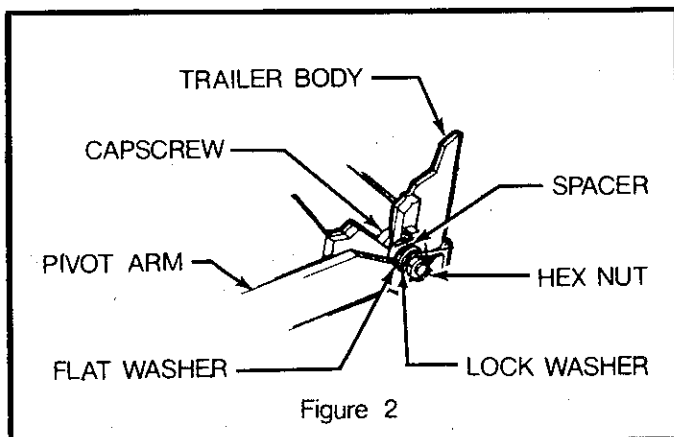

Figure 2
5. Place the dump body on its tailgate to attach the pivot box assembly. Place the two  $3/8$ " long bushings, one in each arm of the pivot box assembly. Insert a  $3/8-16 \times 1$ " capscrew with a  $3/8$ " flatwasher through the trailer body sides and through each bushing and secure with  $3/8$ " lockwasher and hex nut on each side. (Figure 2.)